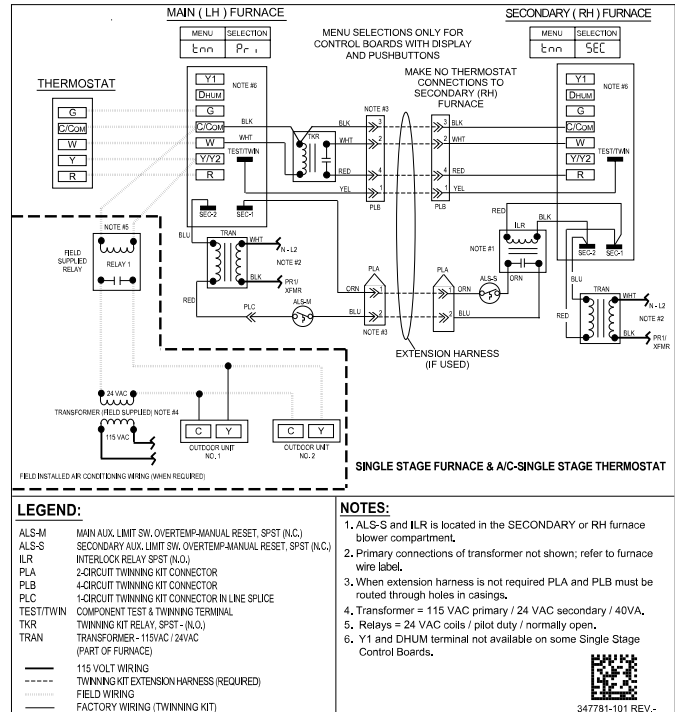

Fig. 20 – Single-Stage Furnace with Single-Stage Thermostat A210187
- a. For single-stage operation of single-stage furnaces connect the White wire with the fork terminal labeled “W” on the TKR to the “W” terminal on the thermostat strip of the Main furnace control board. See Fig. 20.
See Fig. 20.
See Fig. 20 and Table 4